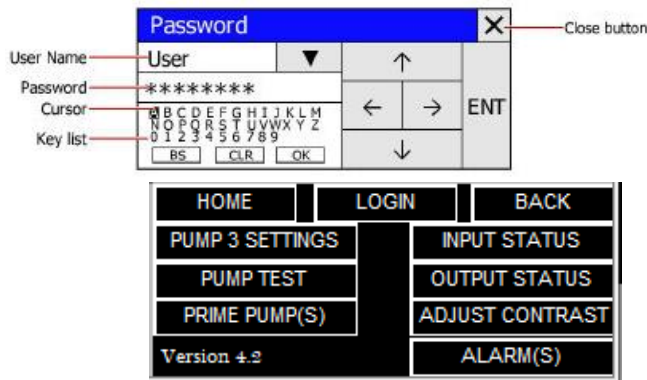

Figure 3. Splash Screen
- B. Once on the second page, click the **LOGIN** button, as shown in figure 3